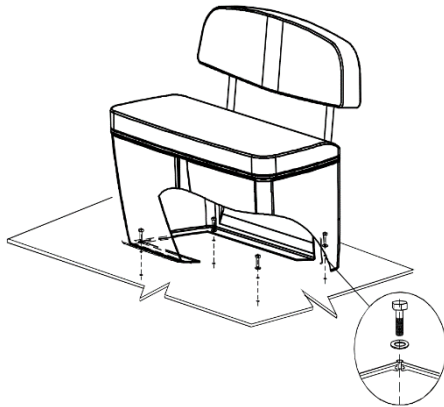

Fig. 8. Installation of container.
- Fix container to the deck by means of bolts M8*25 and toothed lock washer (see Fig.8).